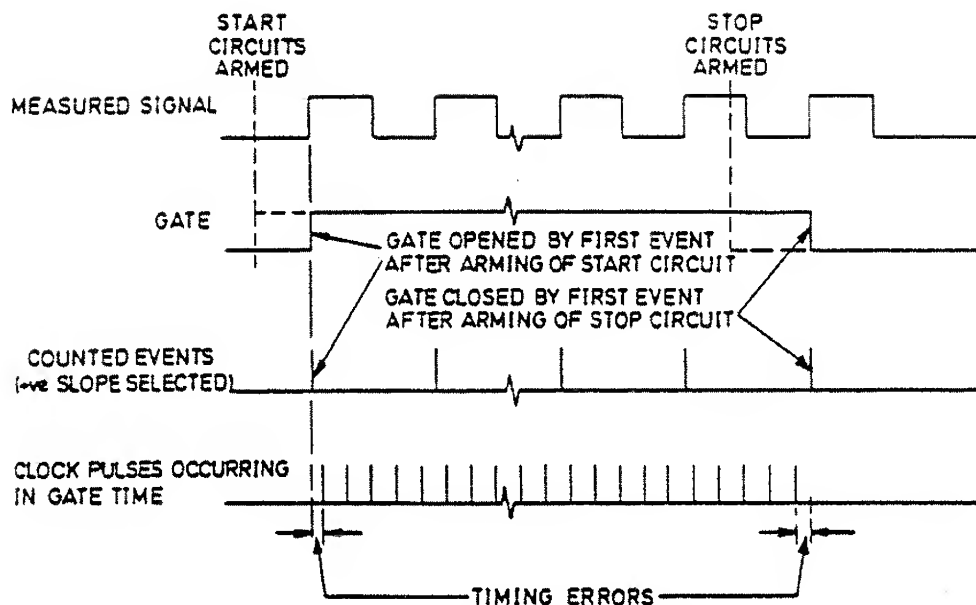

Figure 5.5 - Basic Recipromatic Counting Technique
5.3.3.1.2 The circuits within MCC1 and MCC2 are configured by the microprocessor according to the measurement function selected. The recipromatic counting technique is used. With this technique the measured signal, not the counter clock pulses, controls the start and stop of the measurement period (gate time) as shown in Figure 5.5. The gate time, therefore, extends over an integral number of cycles of the measured waveform. The gate time is measured by counting the clock pulses which occur while the gate is open. This leads to timing errors at both ends of the gate time, as shown. The TEC circuit enhances the measurement accuracy by compensating for these errors.